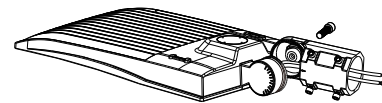

Figure 1
Step 1: Remove the bracket mounting screws on the fixture and run the wires through the bracket. (Figure 1)